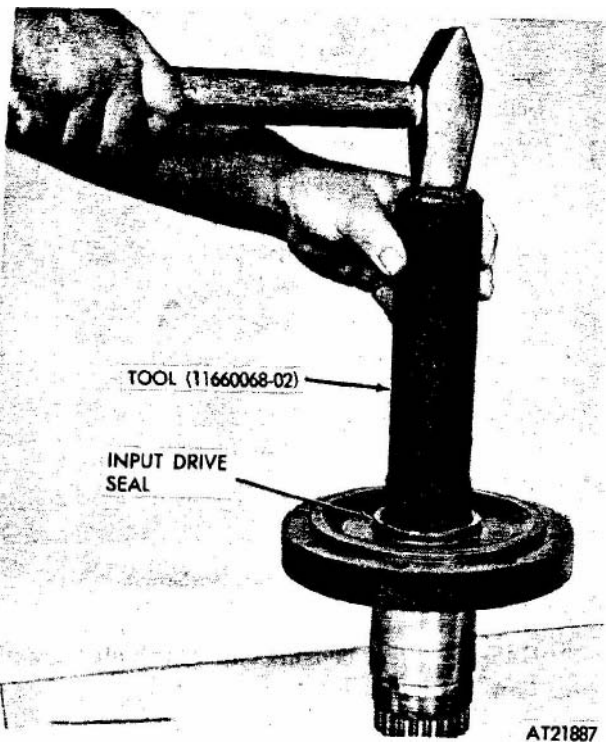

Figure 2-234. Input drive seal installation.
(2) Insert input drive seal into spindle using installer tool (11660068-02) (fig 2-234).